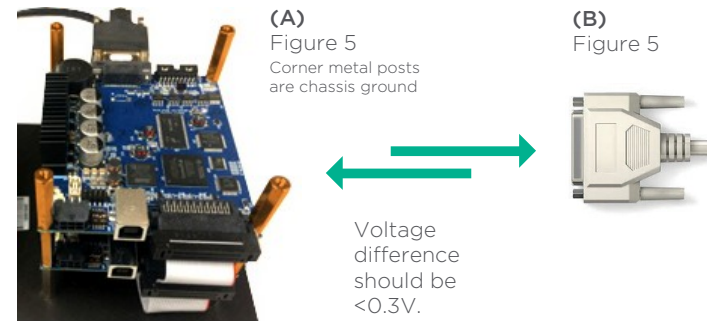

Figure 5
1. With the LIGHTNING II servo boards and your controller powered on, and your XY2-100 cable plugged into your controller only, measure the **voltage difference between the servo chassis ground (A) and your XY2-100 cable DB25 (B) connector shell.** The **voltage should be less than 0.3V.** This verifies that your controller is properly grounded to the chassis. If you measure >0.3V, do NOT connect XY2-100 cable and contactus. See Figure 5.